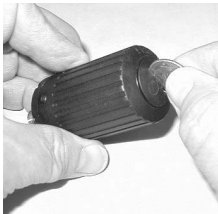

Fig. 120 - Transmitter Battery Hatch
- Apply a coin to the recessed slot of the Hatch (Fig. 120) and turn it counter clockwise out of the Housing.